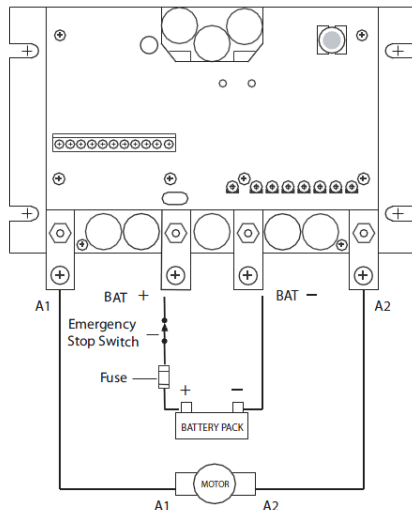

Figure 6. Motor and Battery Connections
Do not initially connect this equipment with power applied. Failure to heed this directive may result in damage or serious injury. MMP strongly recommends the installation of a master power switch in the voltage input line, as shown in Figure 6. The switch contacts should be rated at a minimum of 150-200% of motor nameplate current and 150% of the input voltage.
MMP drives supply motor voltage from A1 and A2 terminals. It is assumed throughout this manual that, when A1 is positive with respect to A2, the motor will rotate clockwise (CW) while looking at the output shaft protruding from the front of the motor. If this is opposite of the desired rotation, simply reverse the wiring of A1 and A2, or close the direction terminals on TB501. Connect a DC motor to terminals A1 and A2 as shown in Figure 6. Ensure that the motor voltage rating is consistent with the drive's output voltage.
Connect the DC power leads to terminals BAT+ and BAT-, or to a single-throw, single-pole master power switch as shown in Figure 6 below (recommended)